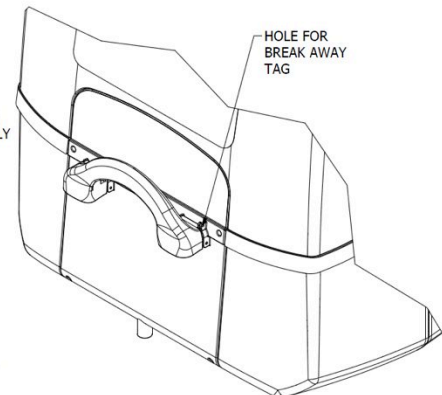

FIGURE 13
- B. Place easy Break Away Tag through hole provide on right side of handle. (Ref Figure 13)
2. Visually inspect easy Break Security Tag is intact (Ref Figure 13).